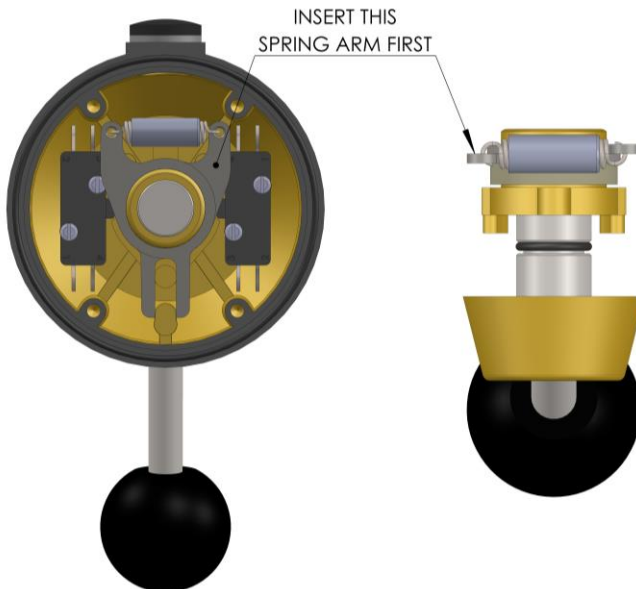

Figure 9: 7170 Spring Arm Order
- c. Refer to Figure 9 for spring arm orientation/order.